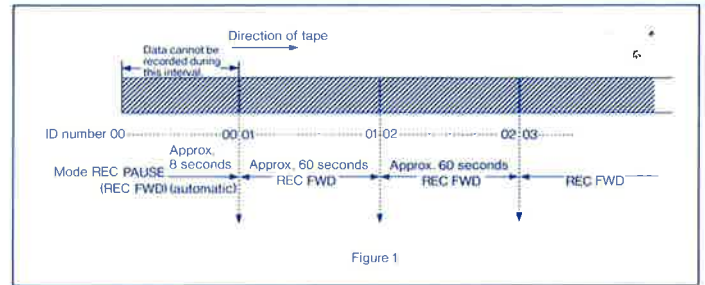

Figure 1
- The ID number always begins with 01 and is incremented by one at every recording operation unless the tape is advanced over unrecorded tape during recording. ID numbers cannot be arbitrarily recorded. (See Figure 1.)
- Pressing the EVENT button once during continuous recording increments the ID number by one. It takes approximately nine seconds for an ID number to be recorded, during which time the EVENT button is disabled. (See Figure 1.)